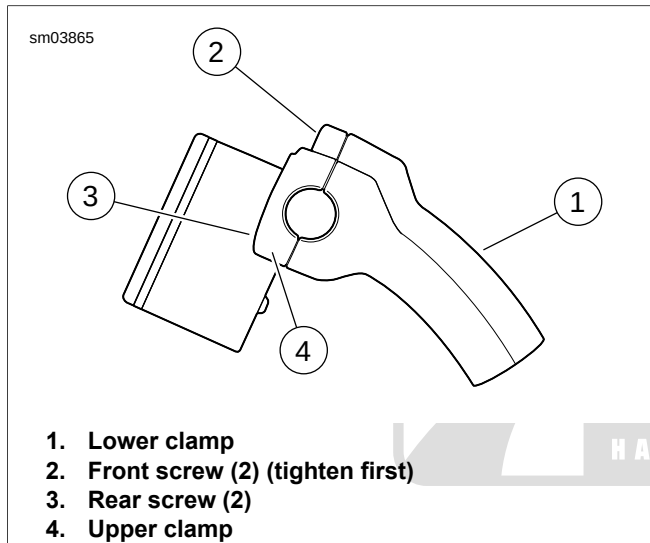

Figure 2-190. Handlebar Riser: XL 1200C/C ANV
3. See Figure 2-190. Install the handlebar: